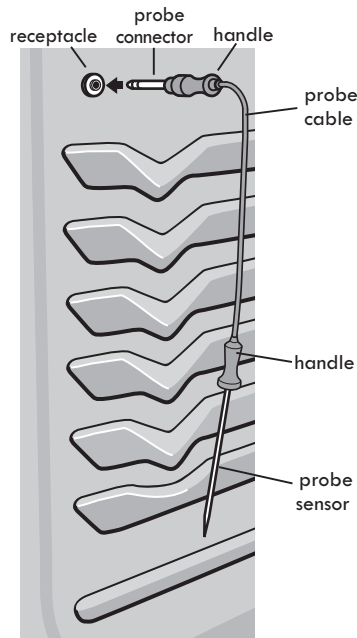

Figure 7: Probe shown with its components
- To avoid damaging the probe, do not use kitchen utensils such as tongs to pull on the probe cable or handles. Always insert and remove the probe using the provided handles (Figure 7) and always use a pot holder to protect hands from possible burns.
2. Plug the connector end of the probe all the way into the probe receptacle while the oven is cool. The receptacle is located on the upper left front oven cavity wall (Figure 7). On some models the receptacle is located on the top of the oven cavity near the front.